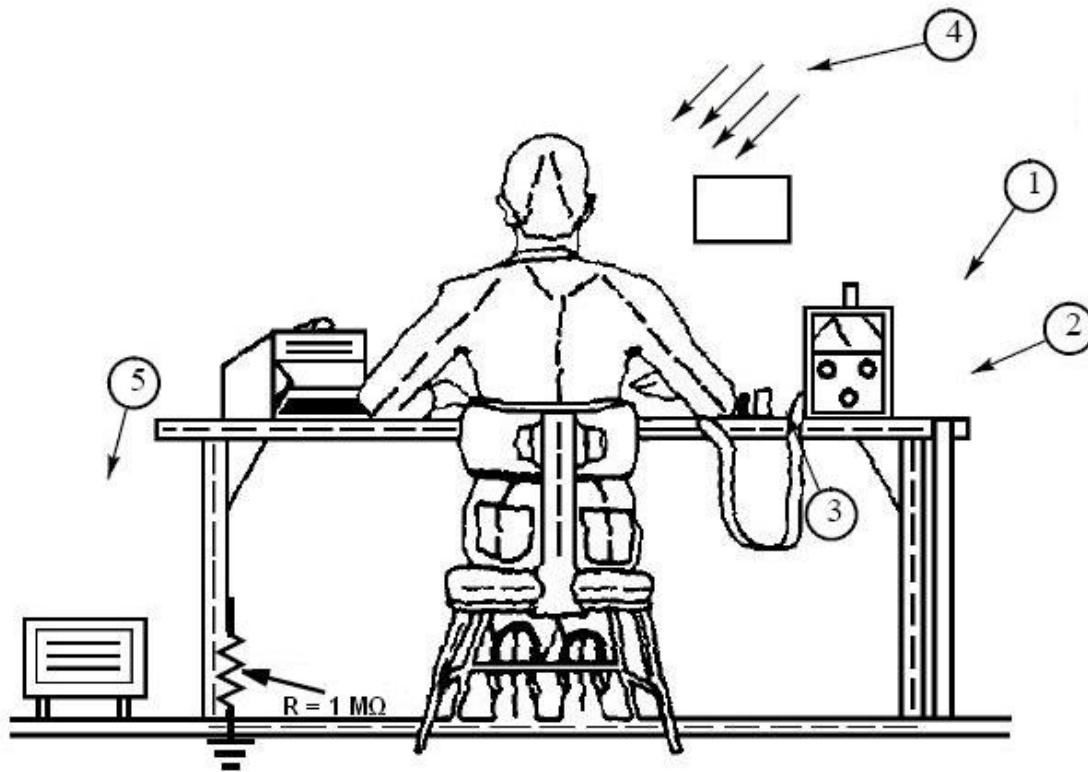

Figure 32. Typical Manufacturing Work Station
6. All CMOS devices should be placed on a grounded bench surface and operators should ground themselves prior to handling devices, because a worker can be statically charged with respect to the bench surface. Wrist straps in contact with skin are strongly recommended. See **Figure 32** on page 78.
Notes for **Figure 32**: